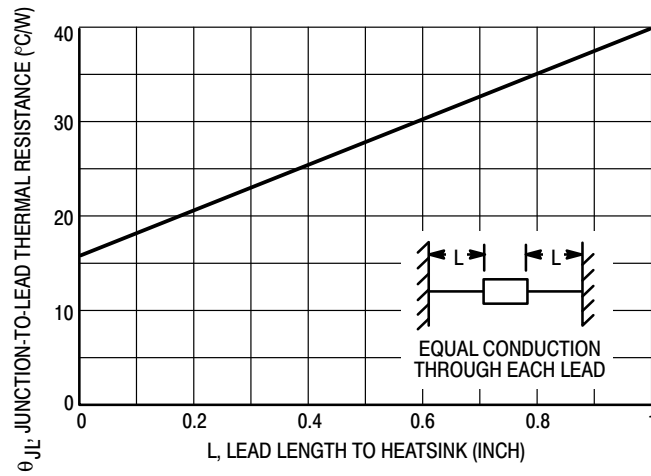
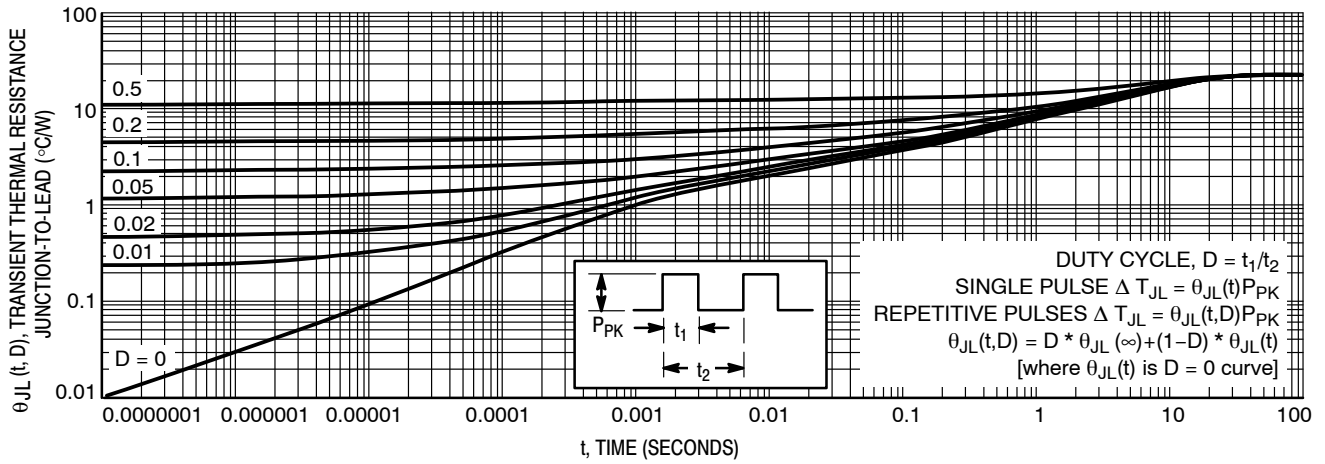
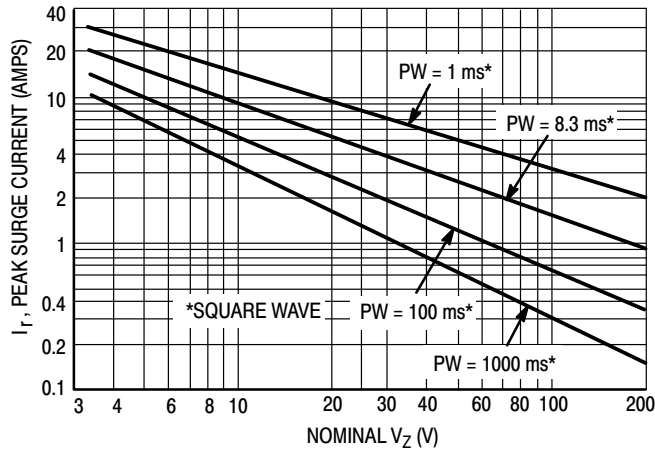
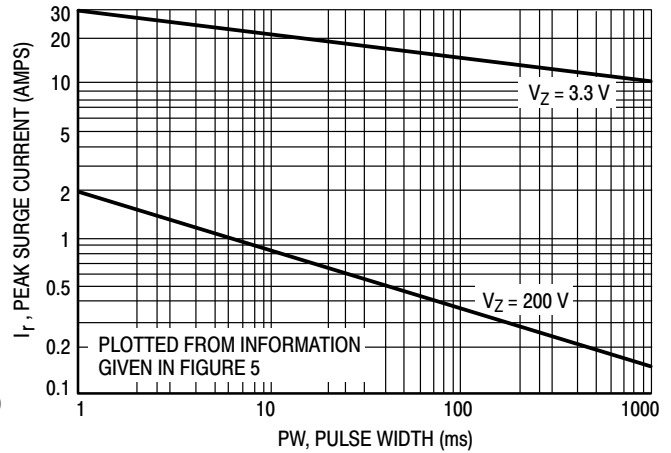

Figure 1. Typical Thermal Resistance
Figure 4. Typical Thermal Response
Figure 5. Maximum Non-Repetitive Surge Current
Figure 6. Peak Surge Current versus Pulse Width
- SURGE CURRENT (I_R):** Surge current is specified as the maximum allowable peak, non-recurrent square-wave current with a pulse width, PW, of 8.3 ms . The data given in Figure 5 may be used to find the maximum surge current for a square wave of any pulse width between 1 ms and 1000 ms by plotting the applicable points on logarithmic paper. Examples of this, using the 3.3 V and 200 V zener are shown in Figure 6. Mounting contact located as specified in Note 2 ($T_A = 25^\circ\text{C} + 8^\circ\text{C}, -2^\circ\text{C}$).
- SURGE CURRENT (I_P):** Surge current is specified as the maximum allowable peak, non-recurrent square-wave current with a pulse width, PW, of 8.3 ms. The data given in Figure 5 may be used to find the maximum surge current for a square wave of any pulse width between 1 ms and 1000 ms by plotting the applicable points on logarithmic paper. Examples of this, using the 3.3 V and 200 V zener are shown in Figure 6. Mounting contact located as specified in Note 7 ($T_A = 25^\circ\text{C} + 8^\circ\text{C}, -2^\circ\text{C}$).
ΔT_{JL} is the increase in junction temperature above the lead temperature and may be found from Figure 4 for a train of power pulses or from Figure 1 for dc power.
Data of Figure 4 should not be used to compute surge capability. Surge limitations are given in Figure 5. They are lower than would be expected by considering only junction temperature, as current crowding effects cause temperatures to be extremely high in small spots resulting in device degradation should the limits of Figure 5 be exceeded.